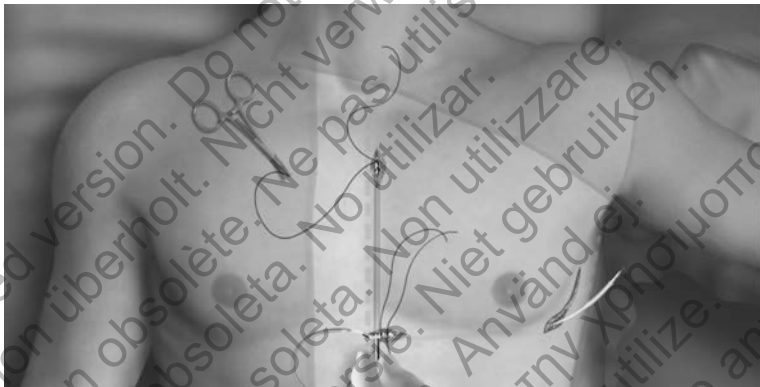

Figure 4. Tunneling to Superior Incision
7. Insert the distal tip of the EIT into the xiphoid incision and tunnel subcutaneously towards the superior incision, staying as close to the deep fascia as possible (Figure 4 Tunneling to Superior Incision on page 12).